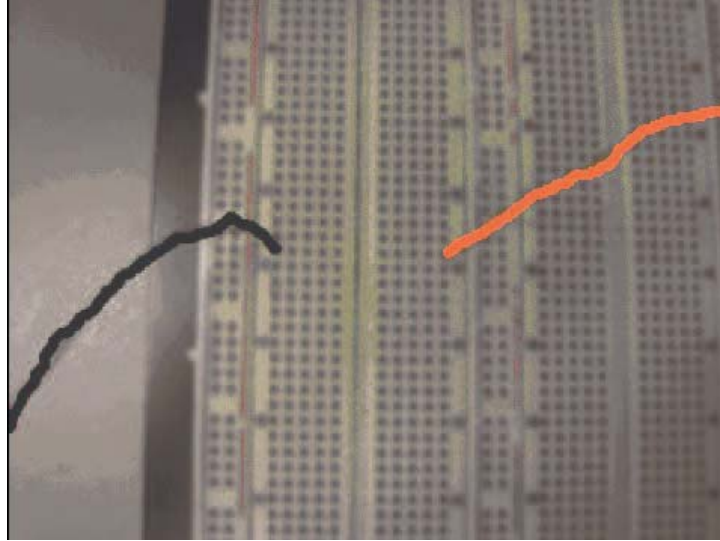

Figure 14
- b. Repeat part (a) for figure 14.